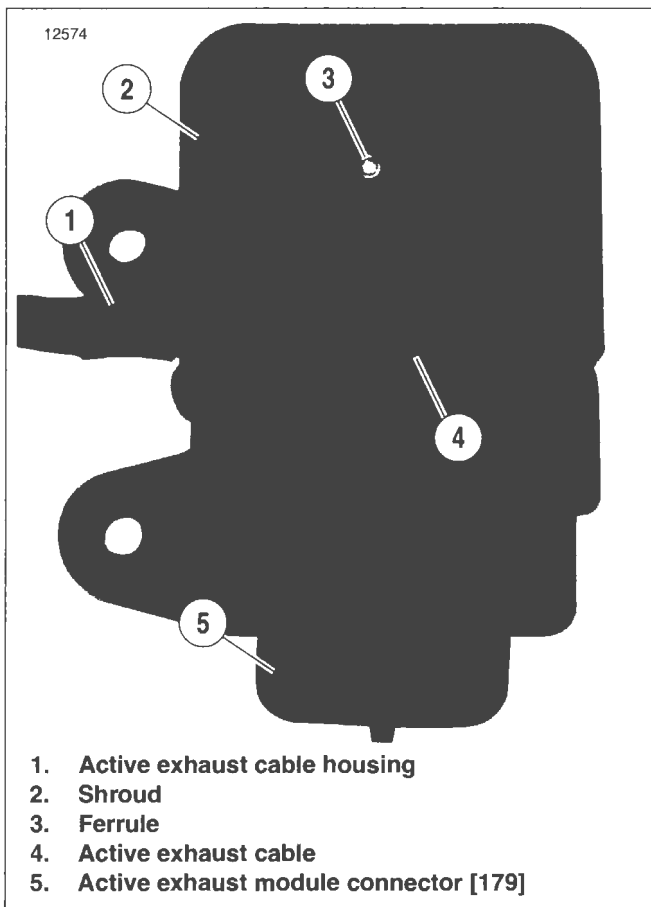

Figure 8-88. Active Exhaust Module
2. Disconnect active exhaust module connector (5) [179].
3. See Figure 8-88. Remove active exhaust cable housing (1) from notch in shroud (2). Remove ferrule (3) from active exhaust module to free cable (4).
See Figure 8-88. Active exhaust module shroud (2) can be replaced. Replace shroud if active exhaust cable housing (1) is a loose fit in shroud.
2. See Figure 8-88. Install ferrule (3) into slot shown. Wrap cable counterclockwise around active exhaust module shroud as shown.
3. Clip cable housing into active exhaust module housing (2).
4. Connect active exhaust module connector (5) [179].